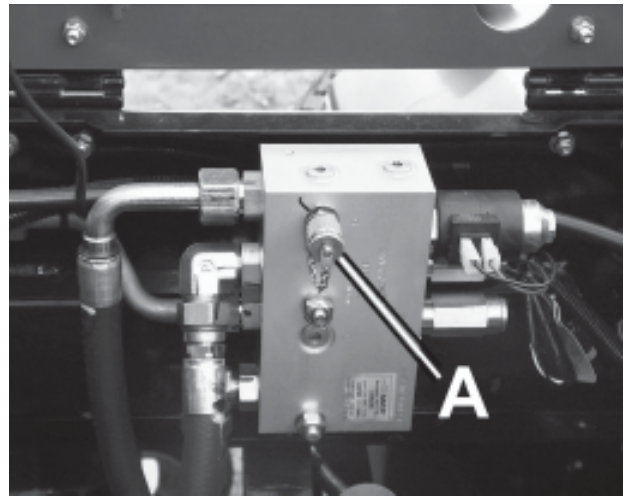

Fig.7
TEST PORTS (Fig.7,8,9):
1. Deck drive pressure: 221 bar (3200 psi). (A(Fig.7))